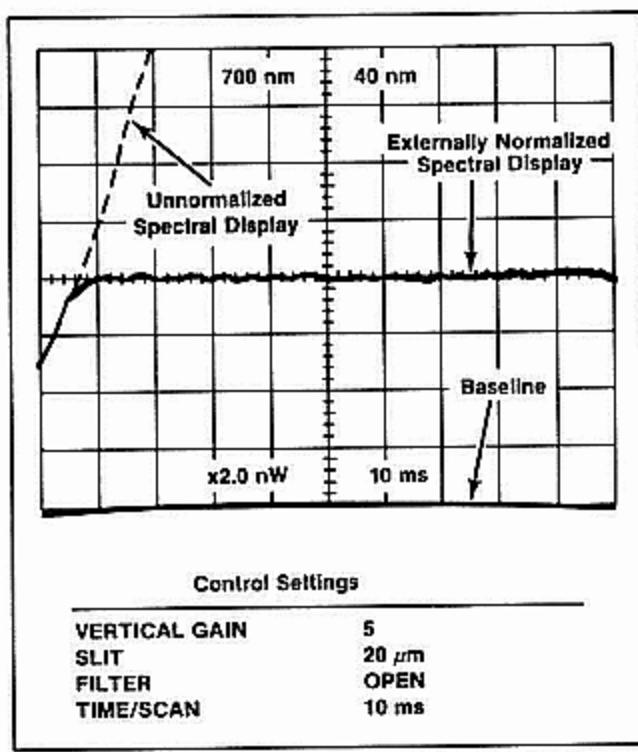

Fig. 3. Spectral display after external normalization.
9. Adjust the 19 GAIN slide controls on the RSS External Normalizer to achieve a "flat" spectral response curve in the spectrometer display. Fig. 3 shows a typical externally-normalized display. The normalized spectrum
in Fig. 3 is four major crt graticule divisions in amplitude, resulting in each vertical major division being equal to 25%T.
Other values of %T/division can be obtained by selecting different gain positions of the VERTICAL GAIN switch. For example, switching from the 5 position to the 10 position would reduce the %T/division for the spectrum in Fig. 3 to 12.12%. The vertical VARIABLE control can be used in conjunction with the VERTICAL GAIN switch to obtain other desired signal amplitudes. The OFFSET control provides the ability to offset overscanned displays back to within the limits of the crt viewing area. This is useful, for example, when it is desired to view small variations in transmission that occur at relatively high absolute transmission levels (e.g., 5% variations occurring around an absolute transmission level of 90%).